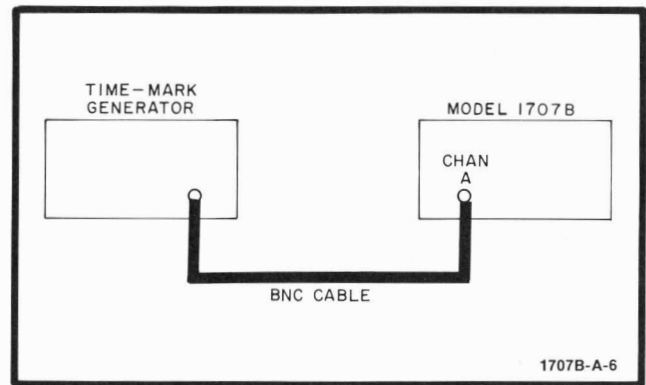

Figure 5-11. Delay Jitter Test Setup
- a. Connect instruments as shown in figure 5-11.